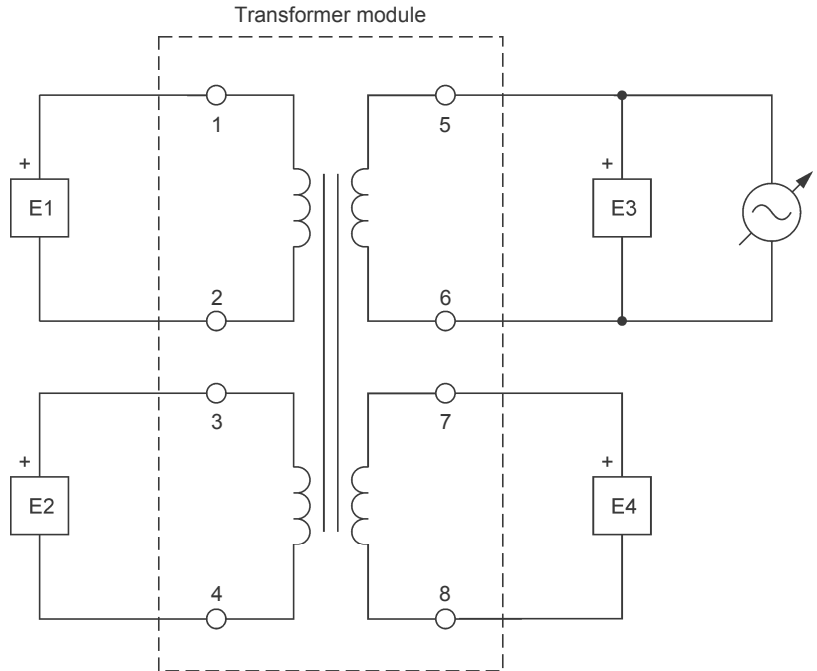

Figure 7. Circuit for measuring the voltage induced across each winding of the transformer when the ac power source is connected to winding 5-6.
16. Connect the equipment as shown in Figure 7.